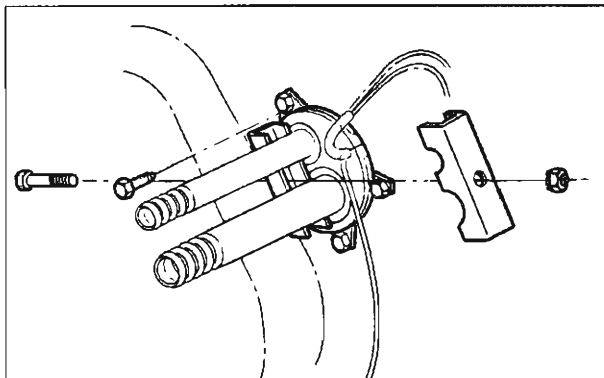

Fig. 54—Grommet and Spacer Bracket
2. Remove the refrigerant hoses from the evaporator inlet and outlet connections extending through the special grommet in the dash panel and into the engine compartment (fig. 54).
3. Remove the screw, nut, spacer bracket and grommet from the outlet connection pipes (fig. 54).